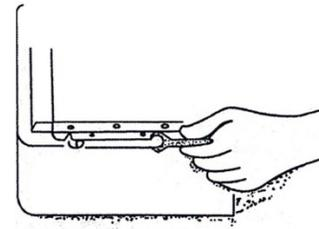

Figure 8-1
3. Then insert a piece of paper and notch it to check if it makes a clean even cut at all points. If not, adjust lower blade according to achieve an exact alignment. (fig. 8-1)